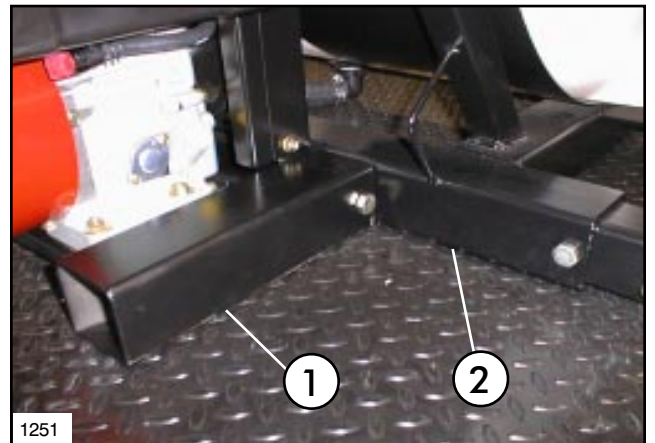

**FIG. 2**
8. Locate the Saddle Assembly on Cargo Bed, as shown in FIG. 2. Use holes in Mounting Brackets to drill (2) 17/32" diameter holes per Mounting Bracket.